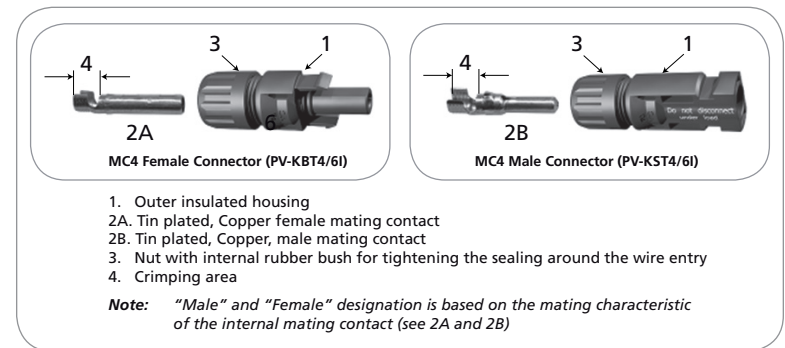

Fig. 1. MC4 Male and Female Connectors
Installation procedure (See Fig. 1 and Fig. 2)
2. Insert the bare conductor into the crimping area (4 of Fig. 1) of the metallic mating contact and crimp using a special purpose crimping tool. The end may be soldered if the crimping tool is not available. Take care that the solder does not flow beyond the crimp area.
4. Tighten nut (3 of Fig.1) so that the rubber bush is compressed around the wire entry to ensure proper sealing.
MC4 Multi-Contact Connectors (Fig. 1)
Construction of MC4 Connectors (See Fig. 1)
The Male and Female MC4 Connectors consist of the following components (See Fig. 1).
- Outer insulated housing with locking arrangement (1 of Fig. 1)
- Tin-plated Copper metallic male & female mating contacts (2A and 2B of Fig. 1). The wire is placed in the crimping area (4 of Fig 1) and crimped with a special crimping tool
- Nut & internal rubber bush (3 of Fig. 1). When the nut is tightened, the internal rubber bush is compressed around the outer jacket of the cable, providing water-tight sealing.